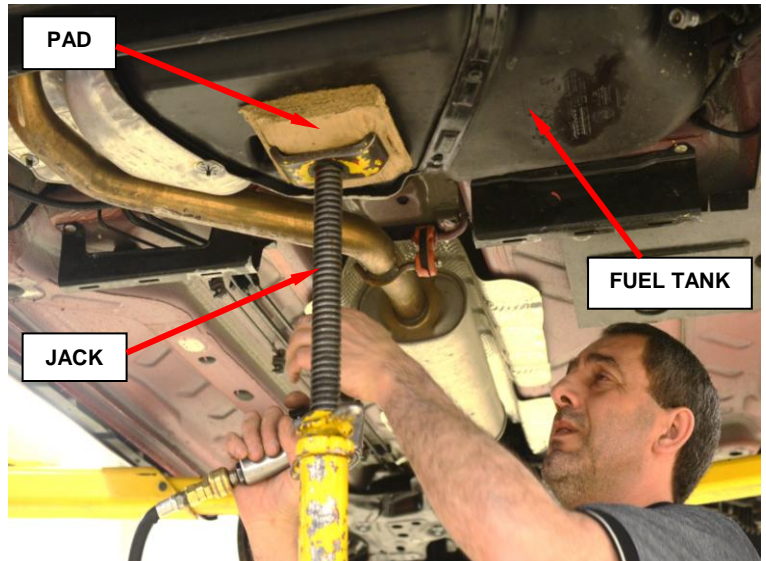

Figure 6 – Support Fuel Tank
- a. Place a jack under the fuel tank and gently support the fuel tank (Figure 6).